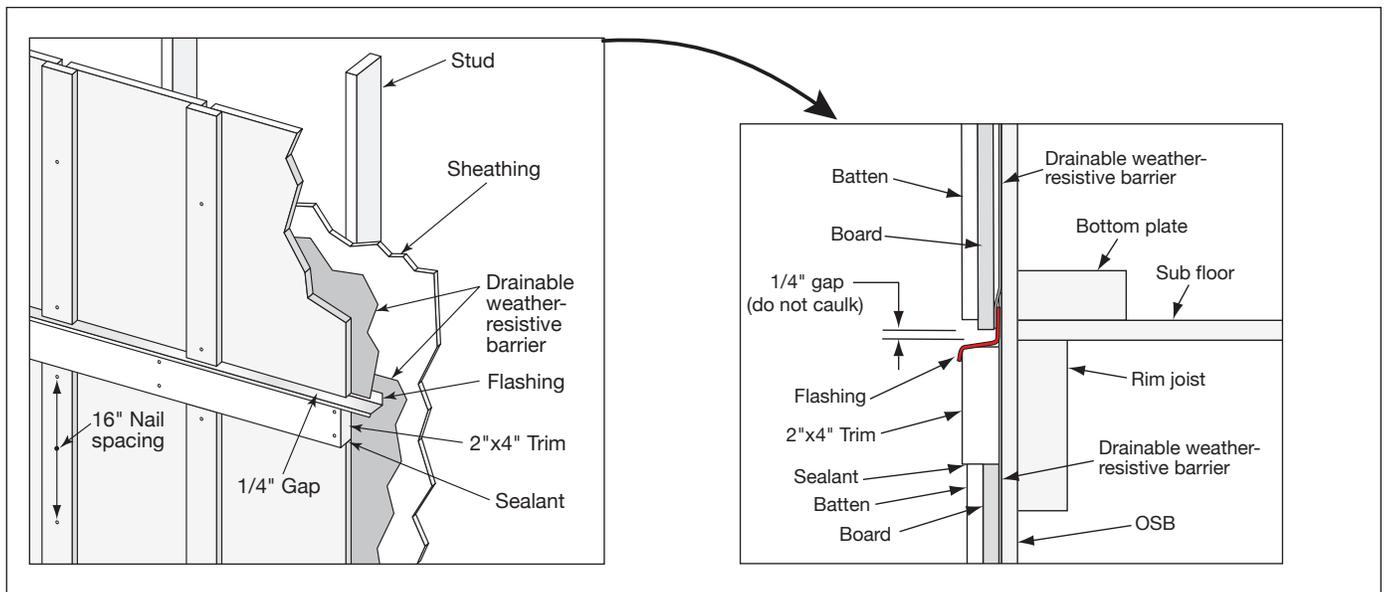

Fig. 33
- Use a piece of z-flashing tucked under the drainable weather resistive barrier that extends to the front face of your horizontal trim (**Fig. 33**)
- Seal the bottom joint where belly band trim connects with the board and battens (**Fig. 33**)